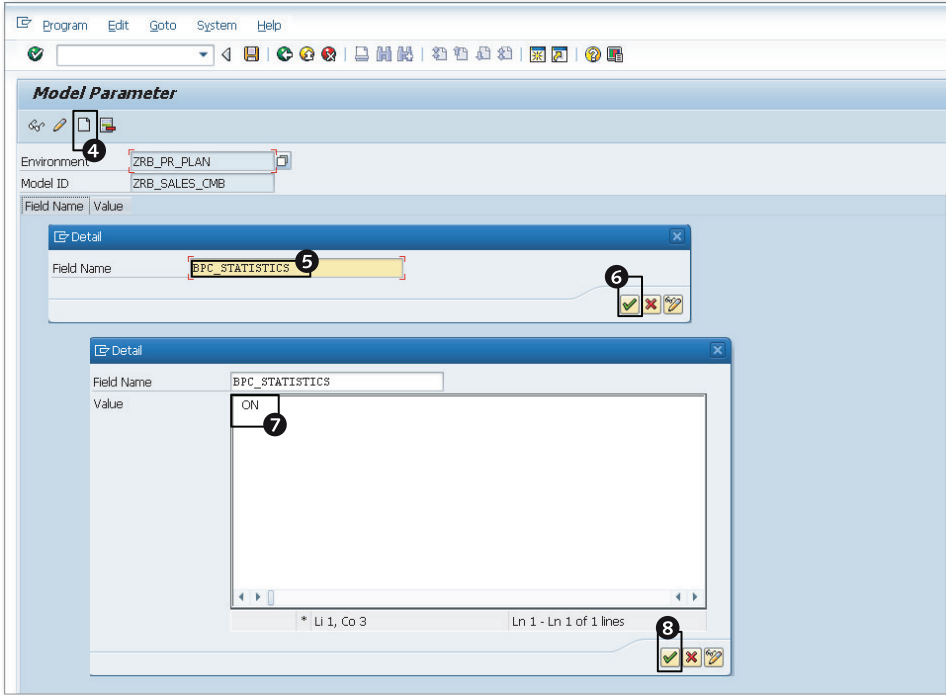

Figure 8.10 SAP BPC Parameter to Turn On Statistics—Part B
3. You will see a list of parameters defined for the model specified. To create a new parameter, click on the CREATE menu icon (Figure 8.10, ❹). In the new dialog box, enter "BPC_STATISTICS" as the parameter name, and then click on the checkmark icon (Figure 8.10, ❺ and ❻). The system will prompt a new dialog box to set the value for the parameter. We want to turn the parameter value to ON. After entering the parameter value, click on the checkmark icon (Figure 8.10, ❼ and ❽).